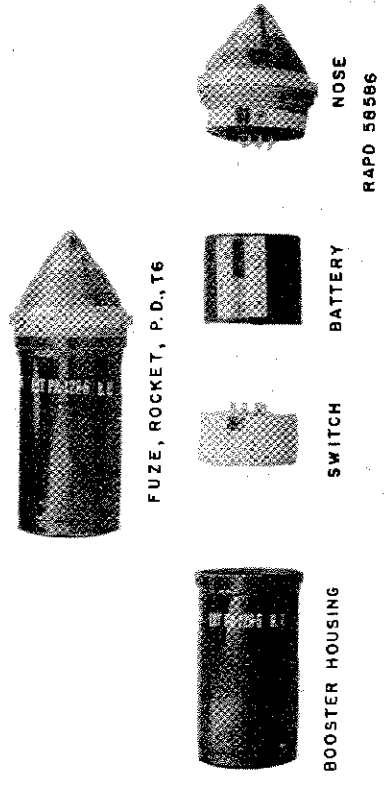

FIG. 1. FUZE AND FUZE COMPONENTS
- a. Fuze, Rocket, P.D., T6 (Fig. 1) for Army Rocket, 4.5-Inch, M3, M3A3, and T22, is a VT type fuze for ground to ground use. The T6 fuze may be used on M3A1 and M3A2 rockets modified in accordance with paragraph 10.